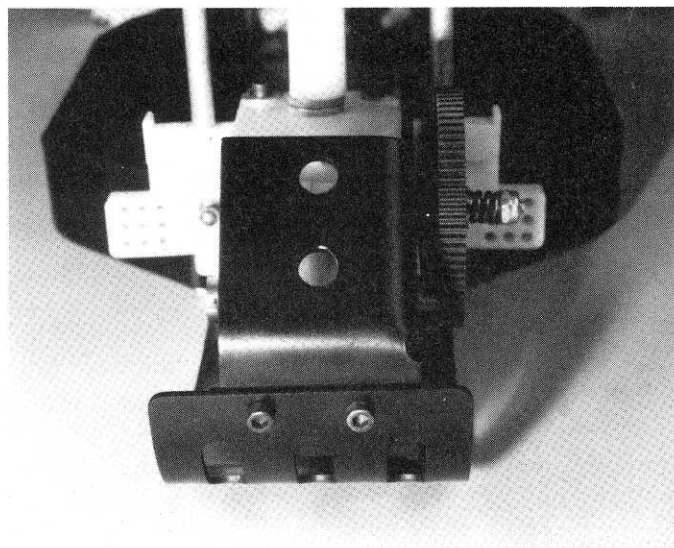

Fig. 79
□ **Fig. 79** Attach the rear of the chassis plate to the motor mount with 2 short Allen screws and tighten down. Now go back and tighten down all the screws in figs. #75-79. Be careful when tightening screws into plastic. As soon as they feel like they're starting to tighten up - stop - so you don't strip out the plastic.